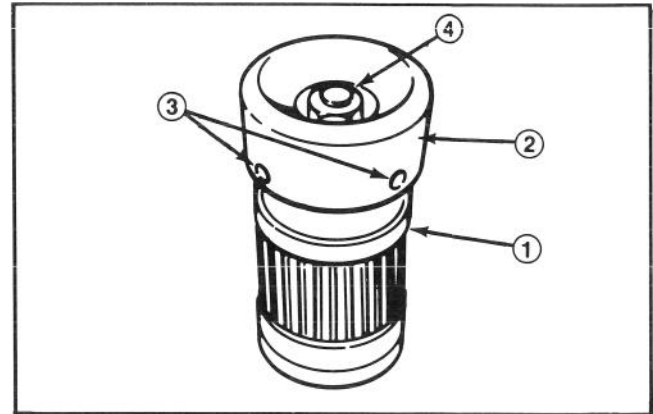

Figure 12
- A. Remove the clutch engagement knob from the clutch assembly by loosening the two allen head set screws (Fig. 12). Then remove the nut and washer from the clutch adapter shaft (Fig. 12).